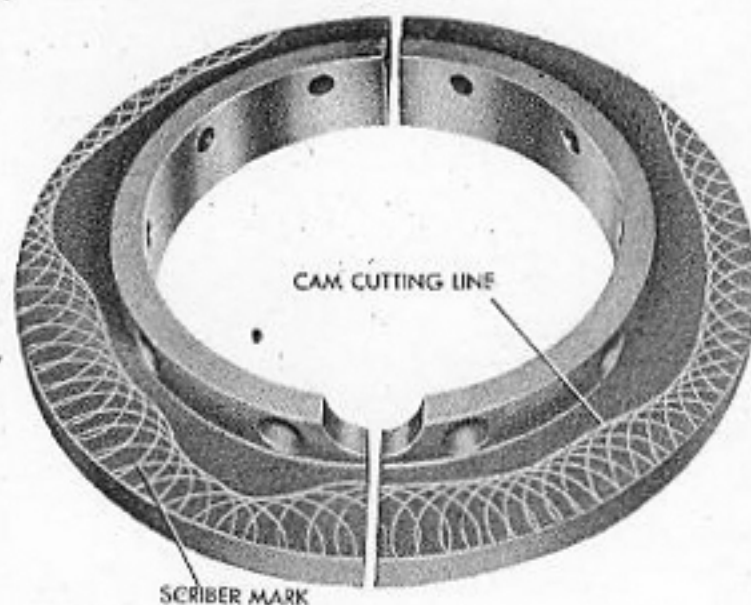

Figure 28. Scribed and Marked Cam Blanks.
7. Cam Blanks. Disconnect the cam lever from the clevis and remove the cam scriber. Remove the eight screws (482479) and remove the cam blanks (487472—R.H. and 487473—L.H.) from the stand. Each blank is dowelled to the stand at the center of the blank, and it may be necessary to pry slightly to loosen the blanks from the dowels. Join the scribed arcs on each blank with a smooth line tangent to and making contact with the outer (away from the center of the blank) edge of the scribed arcs, as shown in Fig. 28. This line indicates the profile of the finished cam and should be scribed sufficiently heavy that any accidental scratch marks will not be mistaken for a part of the profile line. In joining the scribed arcs, it may be found that the cutting line is so irregular as to be somewhat difficult to follow when cutting. However, any deviation of the cutting line from the scribed arcs, in order to smooth the curve, will either reduce (or eliminate) the safety clearance or result in a loss of appreciable fire area. Therefore, the cutting line should be scribed as accurately as practicable, but in no case should any line be scribed inside of (toward the center of the cam blank) the scribed arcs. Mark each cam with the number of the ship and the location and number of the gun mount for which it is made.